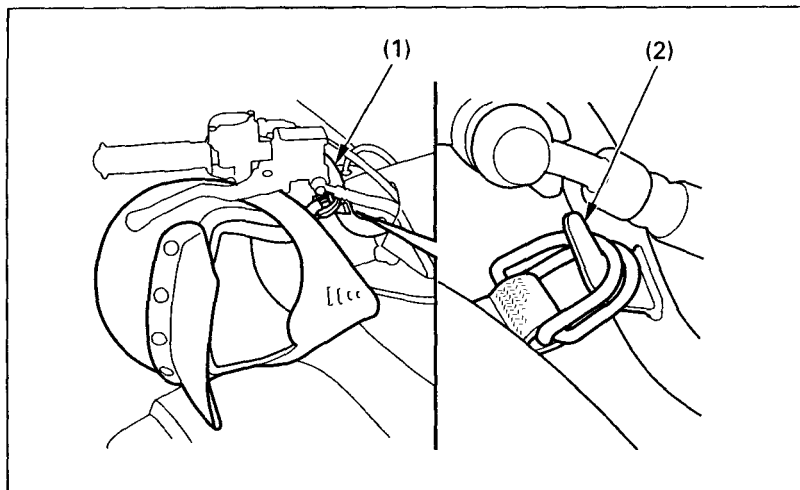

Fig. 2-19 (1) Handlebar
The helmet holder (Fig.2-19) is located on the right side of the handlebar (1). To use the holder, hang the D-ring on your helmet strap over the bracket. Use the helmet holder only when the FOURTRAX is parked.